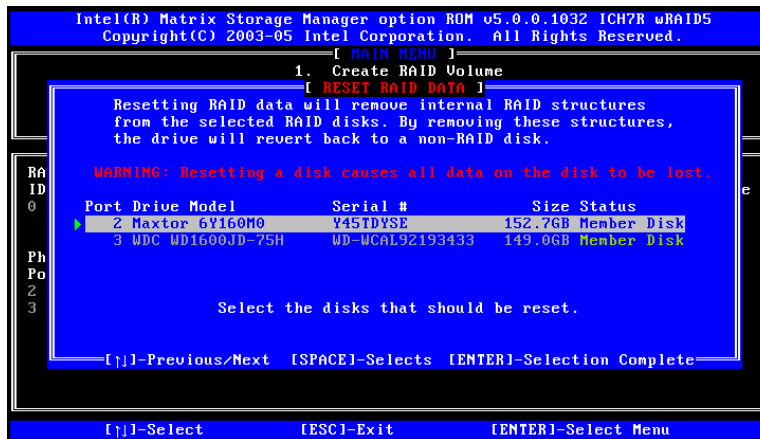

Figure F-13: Select Disk to Reset
Step 2: Select Disks to Reset. Use the arrow keys to scroll through the disk drives and press **SPACE** to select which drives are to be reset as non-RAID. After all the disks to be reset have been chosen, press **ENTER**. See **Figure F-13**.